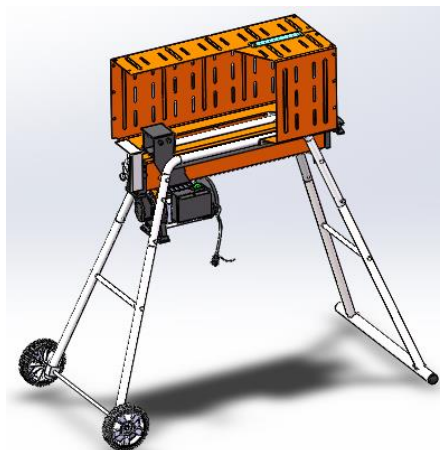

Fig.2
2. Push the three M8×16 screws through the three washer8 and the mounting hole, then tighten the screw holes corresponding to the bent legs. Push the four M8×16 bolts through the mounting hole of the connecting plate and the support plate, then tighten with four M8 nuts. (Fig.2)